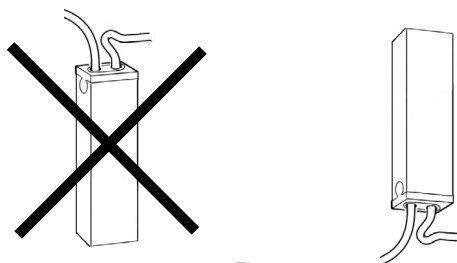

Fig. 7
- 8 The RC2 receiver does not require mounting, it can be positioned directly in the dedicated compartment. To avoid any risk of water infiltrations, we recommend positioning it with the cables facing down. See figure 7